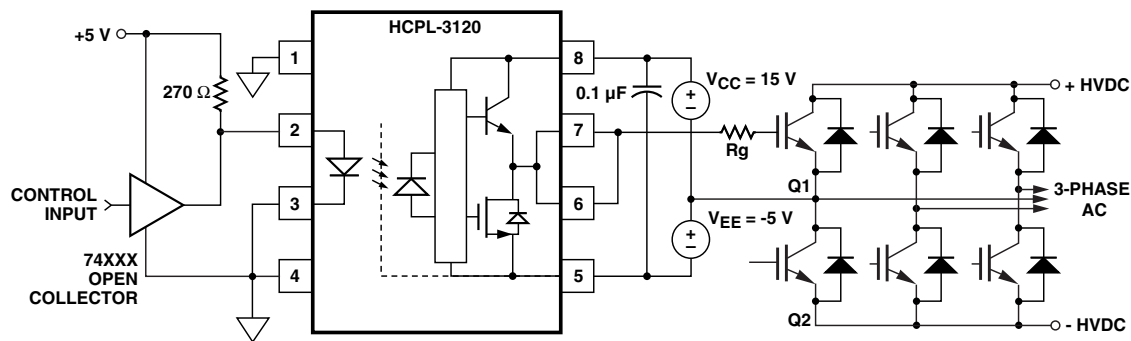

Figure 26. HCPL-3120 typical application circuit with negative IGBT gate drive.
Step 1: Calculate  $R_g$  Minimum from the  $I_{OL}$  Peak Specification. The IGBT and  $R_g$  in Figure 26 can be analyzed as a simple RC circuit with a voltage supplied by the HCPL-3120.
For the circuit in Figure 26 with  $I_F$  (worst case) = 16mA,  $R_g = 8\Omega$ , Max Duty Cycle = 80%,  $Q_g = 500$  nC,  $f = 20$  kHz and  $T_A \text{ max} = 85^\circ\text{C}$ :